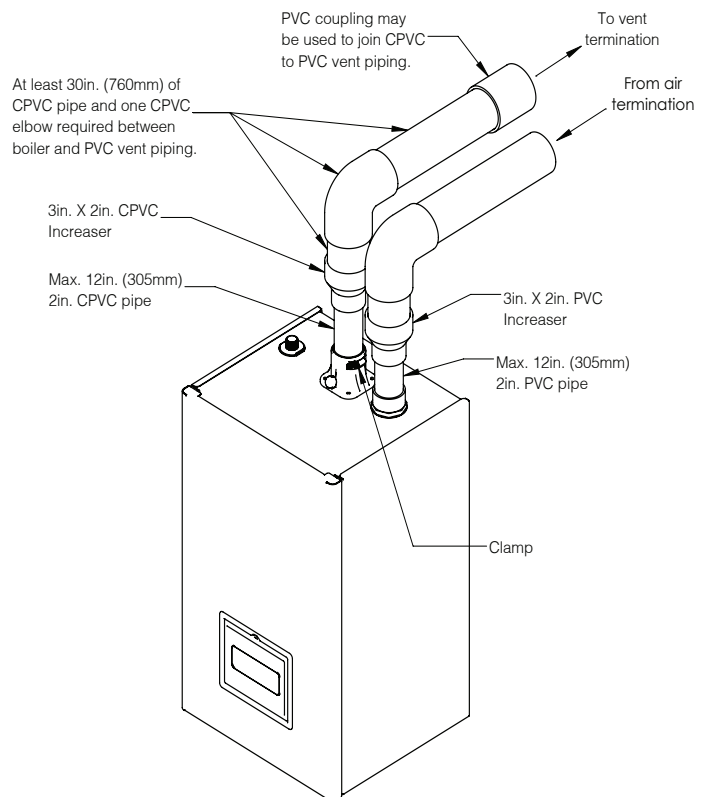

Figure 7-13: Near Boiler CPVC/PVC Venting with Increaser
9. Vent and air can be up-sized to 3 in. for longer runs. If up sizing to 3 in. vent material, maximum length of 2 in. pipe is 12 in. (305 mm) before transitioning with 2 x 3 CPVC increaser for vent piping and similar PVC fittings for air. Increaser must be installed in vertical section of pipe. See Figure 7-13.